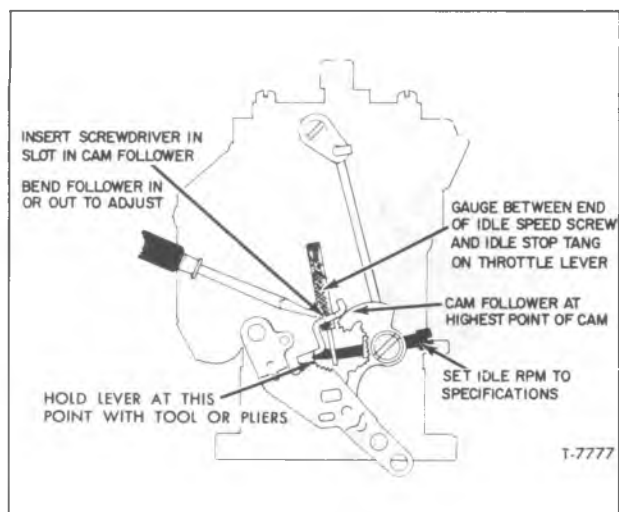

Figure 27—Fast Idle Adjustment (Model M)
(Refer to Fig. 27)
**IMPORTANT:** Support throttle lever with pliers as shown in figure 27, to prevent bending fast idle tang.